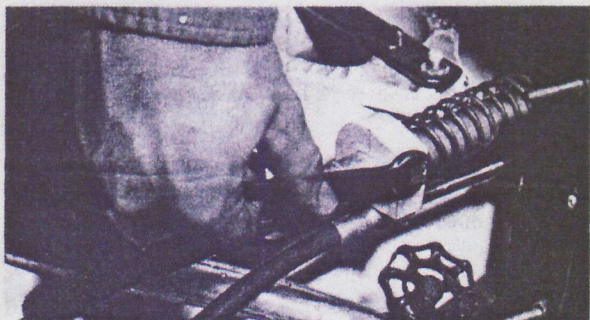

Figure 15
- 15 Connect forward end of control cable to control unit. Set control lever in rearmost position. Push down on steerable nozzle until adapter body rests against stop. Tighten adjusting clamp in place using the 1/4"-20 x 1-1/2" hex head capscrew (35) with Loctite applied to the threads (Figure 15). Minor travel adjustments can be made by moving the adjusting clamp forward or rearward a slight amount. Berkeley Pump Company offers two separate control systems designed for use with the Jetovator, both of which are supplied complete with mounting brackets and necessary hardware.